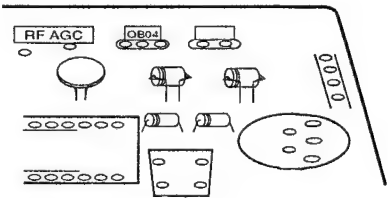

Fig. 3
5. Mount the replacement part so that it does not touch any other parts. (Fig. 3)